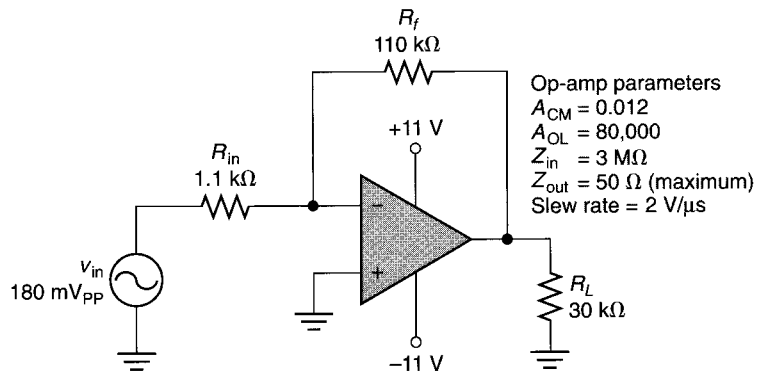

FIGURE 15.60
18. Perform a complete analysis of the amplifier in Figure 15.60.